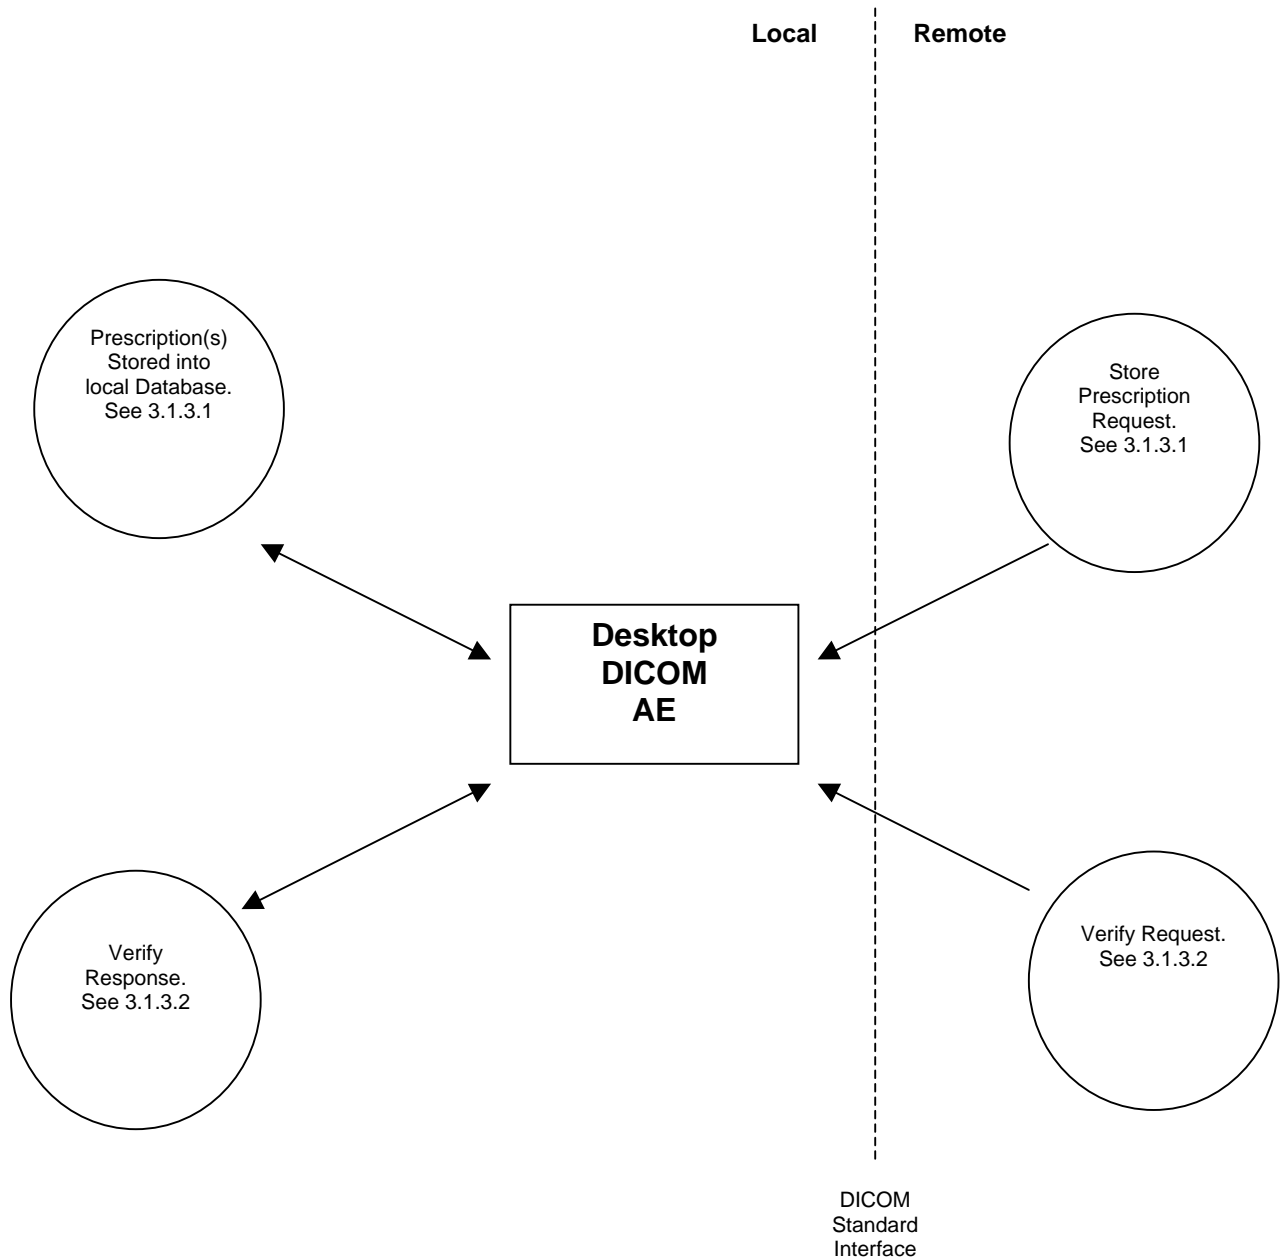

Figure 1 Desktop Implementation Model
Desktop Pro behaves as a single Application Entity (AE). The related Implementation Model is shown in Figure 1.